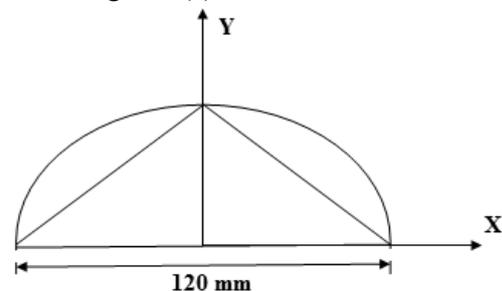

Figure 3(b)
b) Find the polar moment of inertia of a semicircle about its centre from which a triangle base 120mm and height 60 mm is removed as shown in the figure 3(b).